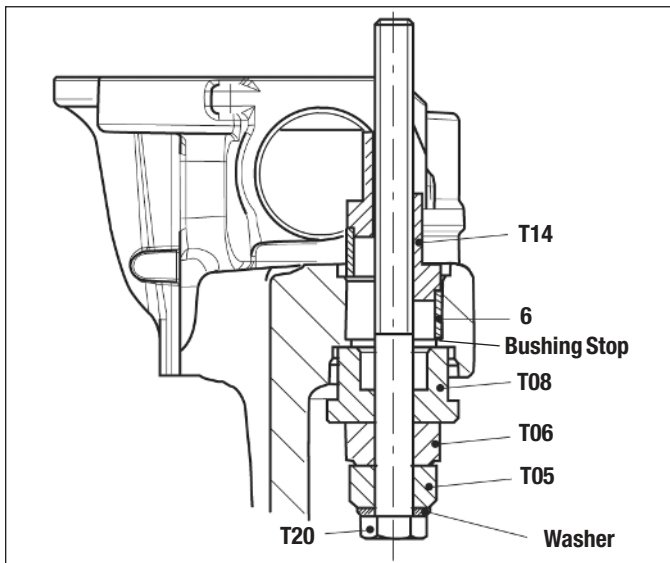

Figure 81 – Guide Pin Bushing Installation
5.6.27 Use the tool combination shown in Figure 80 to draw the bushing (6) into the caliper. Also see Figure 81, to see the orientation (with tool T14 at the top). Hand tighten the nut (T14) into position. Then tighten the bolt (T20) using a box end wrench or socket to draw the bushing (6) into the caliper until the bushing (6) contacts the machined step in the bore. Remove the tool.